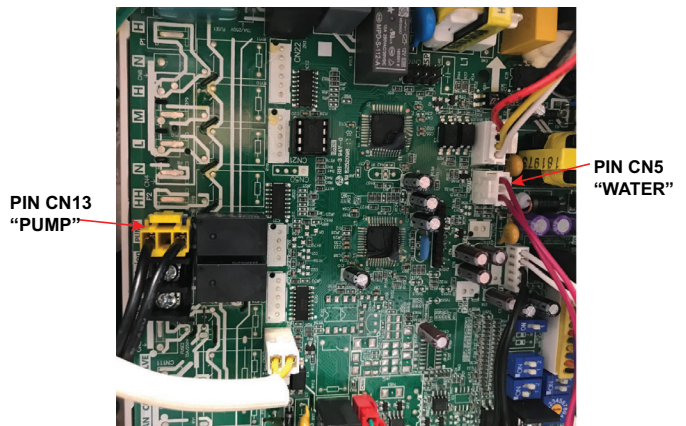

Fig. 45 —Condensate Lift Pump Connectors
- d. Plug the power cable of the external pump to CN13 / "PUMP" pin and plug the water level sensor cable to the CN5 / "WATER" to enable the pump (see Fig. 45).